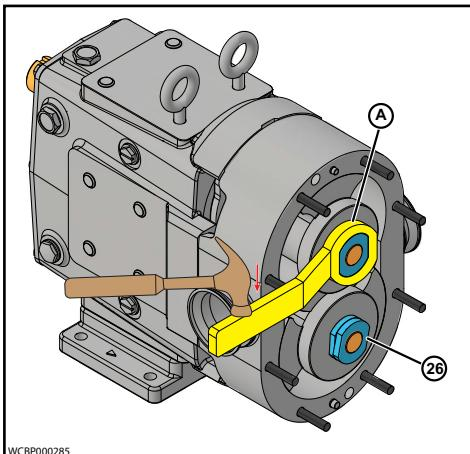

Figure 100 - Rotor Assembly
**Recommended method:** install one rotor nut onto the shaft. Using the rotor nut wrench and a mallet, place the rotor nut wrench onto the rotor nut, then strike the wrench with the mallet hard enough to set the rotor nut tight. Install the second rotor nut and repeat the process. See Figure 100. Strike the rotor nut wrench at the location of the arrow. Repeat this for both shafts.